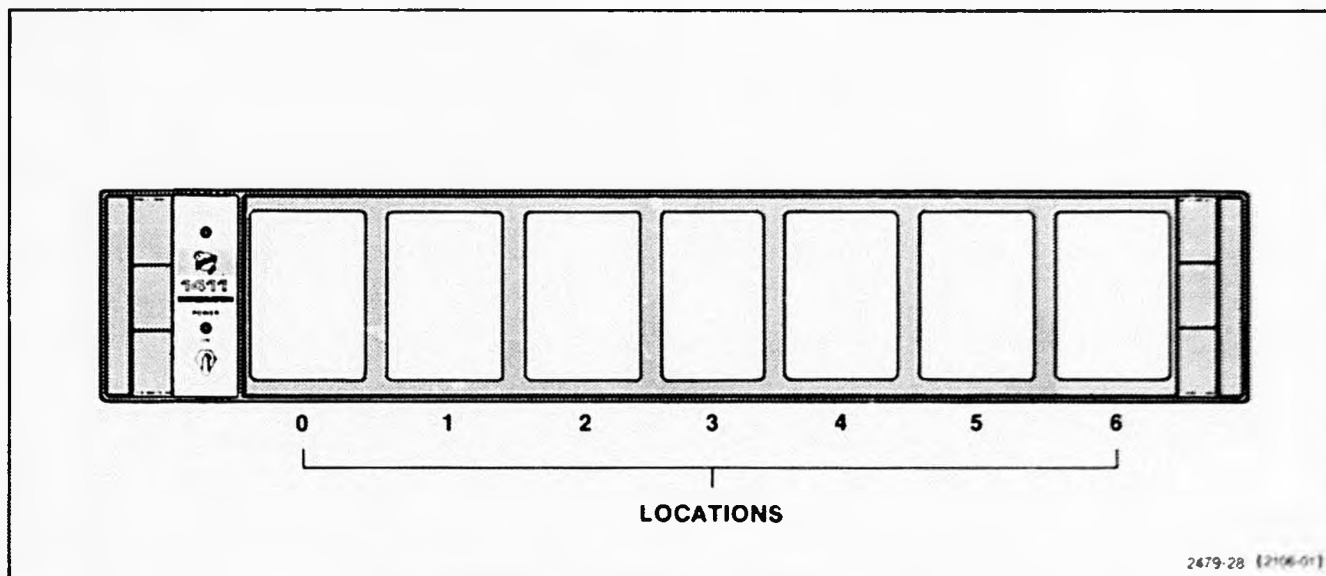

Fig. 3-1. 1411 module locations.
1. Select one of the available 1411 Module locations for installation: use locations 2 through 6 when a dual-width SPG is installed, or locations 1 through 6 with a single-width SPG installed (see Fig. 3-1).